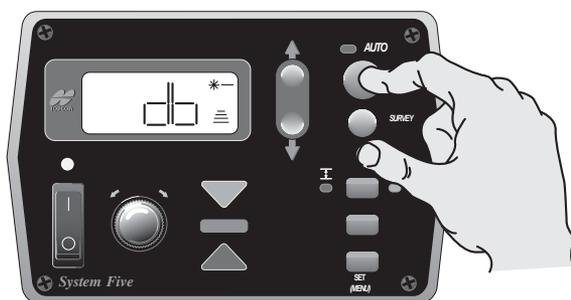

Figure 4-35. Select Elevation Deadband
1. From the Performance Menu, press the Auto button to select Elevation Deadband (Figure 4-35).